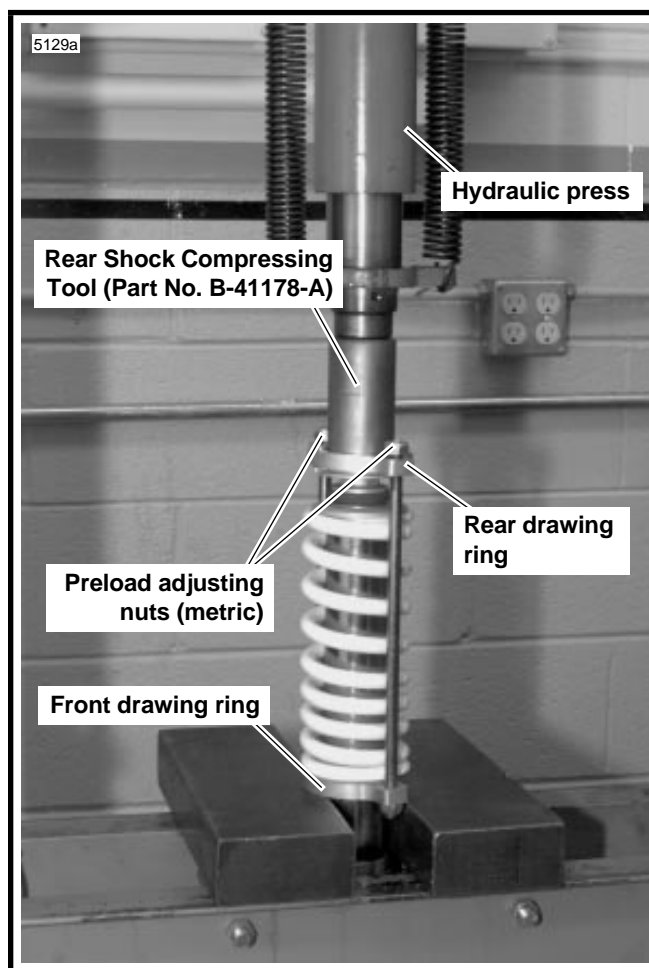

Figure 2-42. Compressing Rear Shock
1. See Figure 2-42. Place rear shock absorber in a hydraulic press with REAR SHOCK COMPRESSING TOOL \(Part No. B-41178-A\) on rear drawing ring.
5. See Figure 2-42. Place rear shock absorber in a hydraulic press with REAR SHOCK COMPRESSING TOOL \(Part No. B-41178-A\) on rear drawing ring.